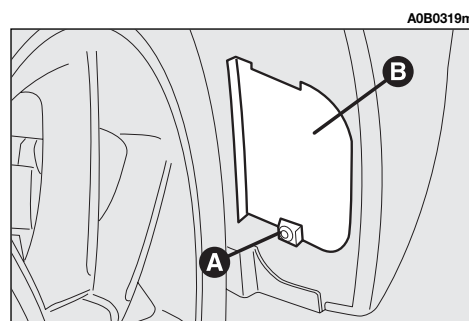

fig. 33
- Loosen the screw (**A-fig. 33**) and remove the protection cover (**B**).